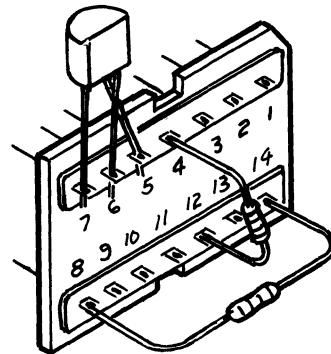

Figure 3-8
2. Remove the 1488 in location 4A and replace it with the Current Loop circuit built on a 14-pin header. This circuit is shown in Figure 3-8 and is constructed as follows:
- a. Connect a 2N3904 transistor to the 14-pin header with the emitter (E) lead connected to pin 7, the base (B) lead connected to pin 5 and the collector (C) lead connected to pin 6.